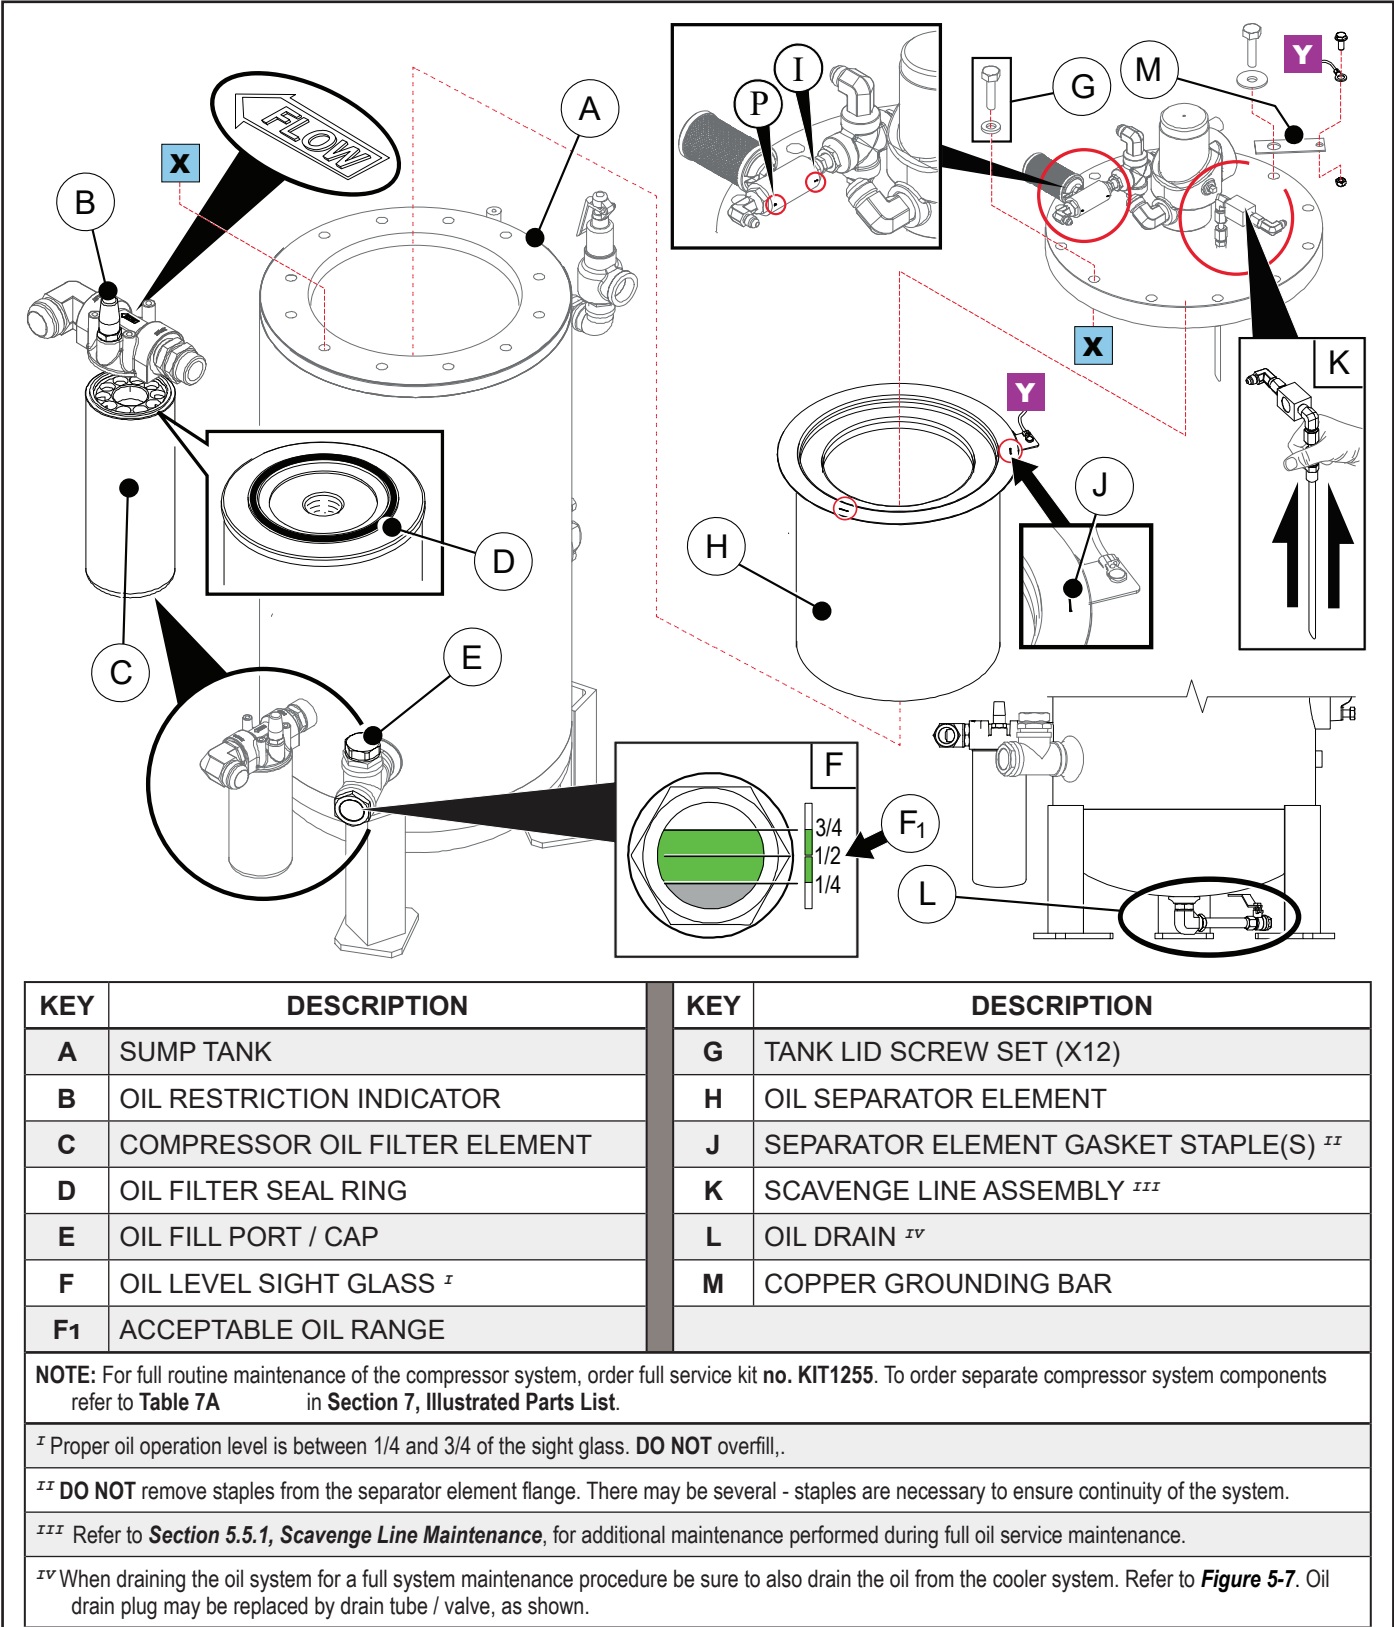

Figure 5-6: Compressor Full Oil Service Maintenance
3. Refer to **Figure 5-6**. Remove the twelve (12) capscrews sealing the tank lid. Be certain to retain the copper grounding bar.